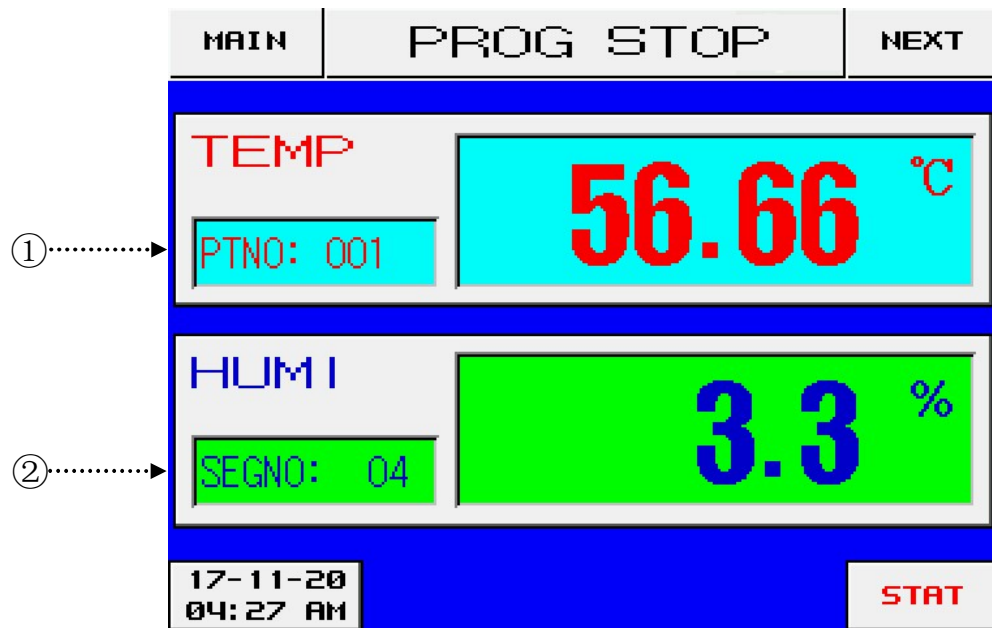

Figure 12
- ⑥ MON. menu: click on it shift to Operation Screen as Figure 12